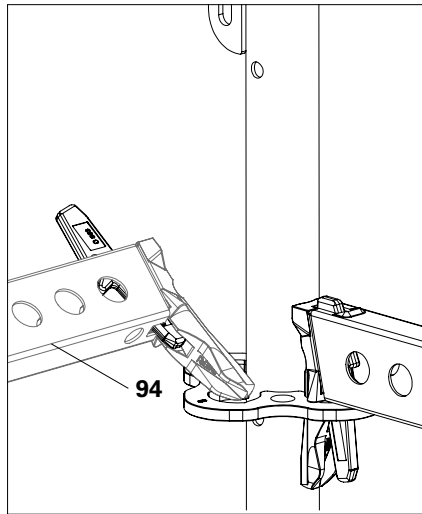

Fig. A2.01
1. Place Horizontal Ledger UH-2 (**14**) or UHV-2 diagonally on both rosettes and set vertically. (Fig. A2.01)